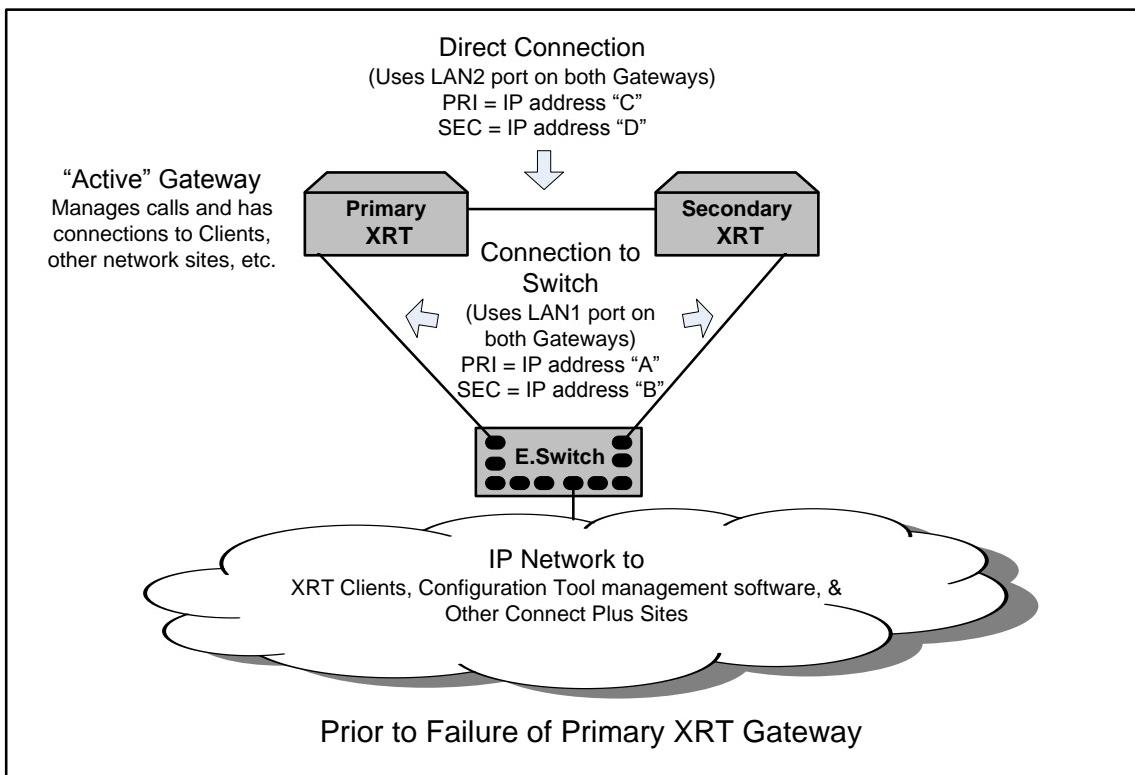

Figure 4-13 Redundant Gateway Configuration with Primary XRT Active
5. The Network Settings screen requires a total of 4 static IP addresses (two for each Gateway), as depicted in Figure 4-13 and discussed in Table 4-7.